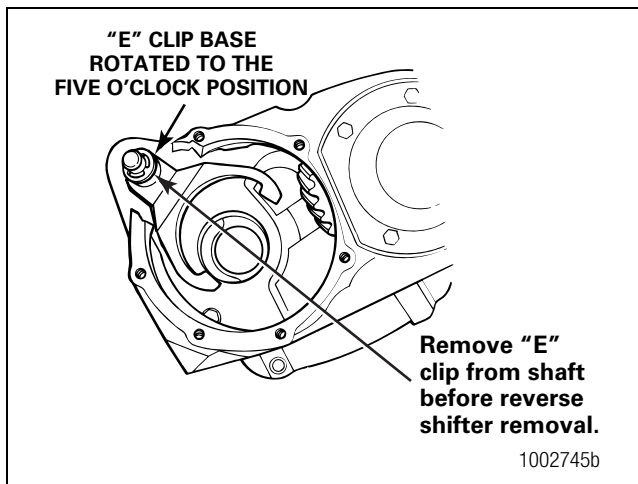

Figure 3.40
5. Rotate the shift shaft until the "E" clip ahead of the shift fork is at approximately the five o'clock position. Figure 3.40.